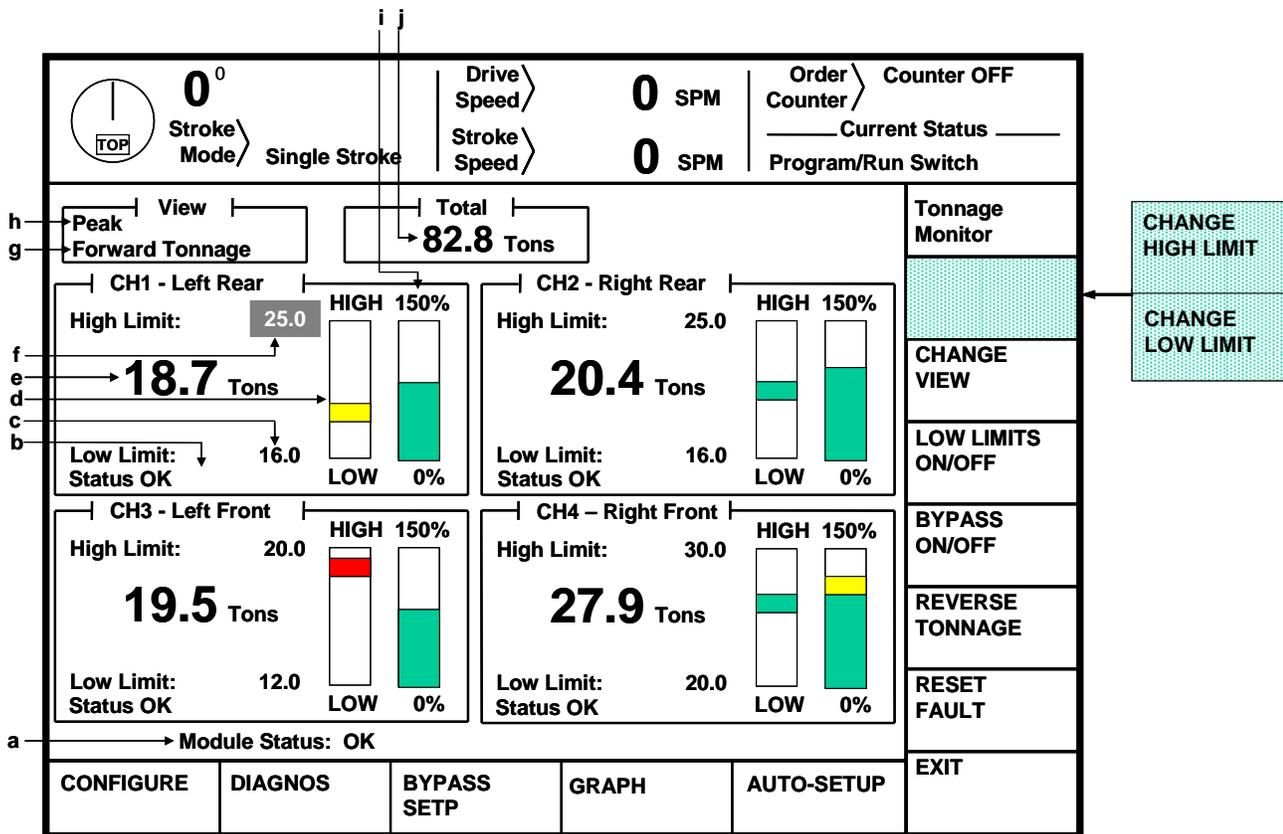
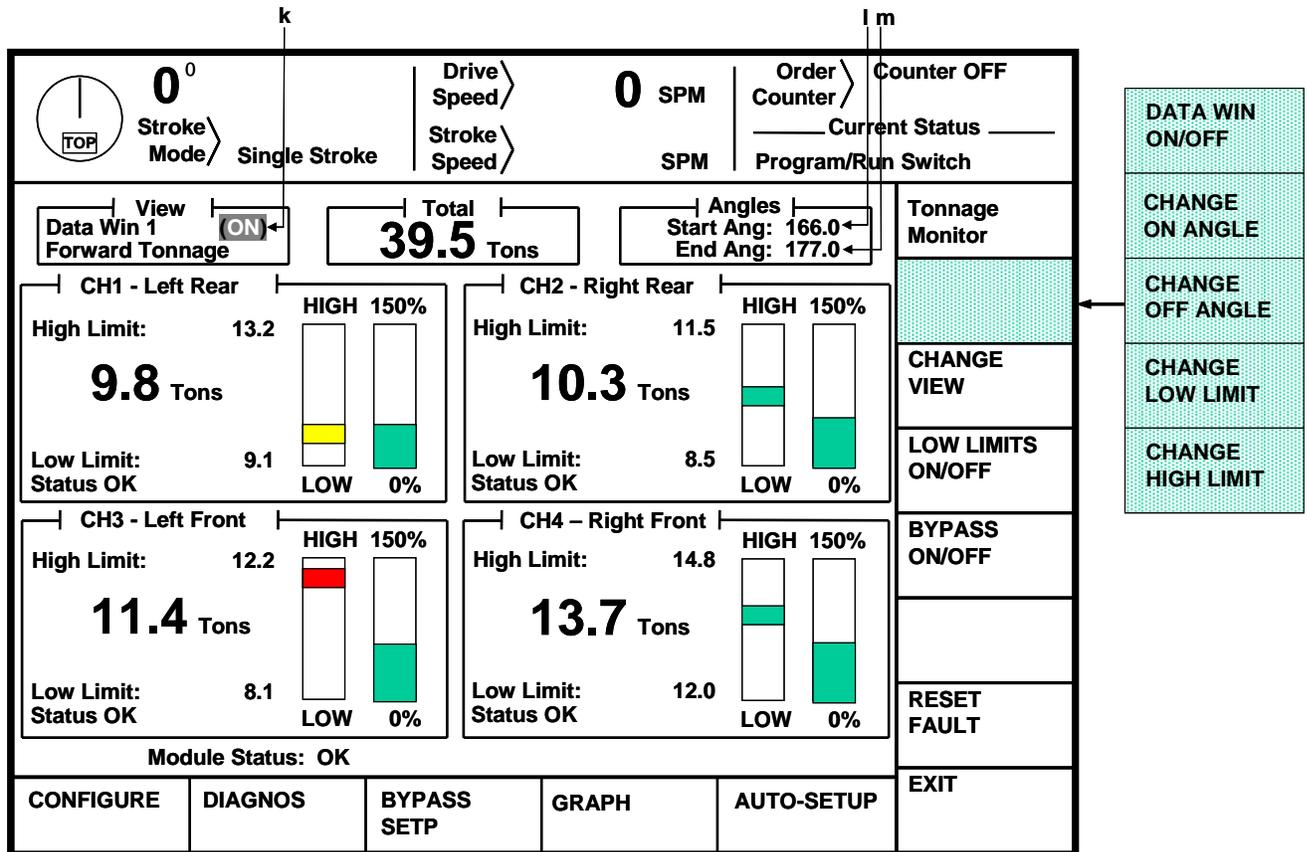
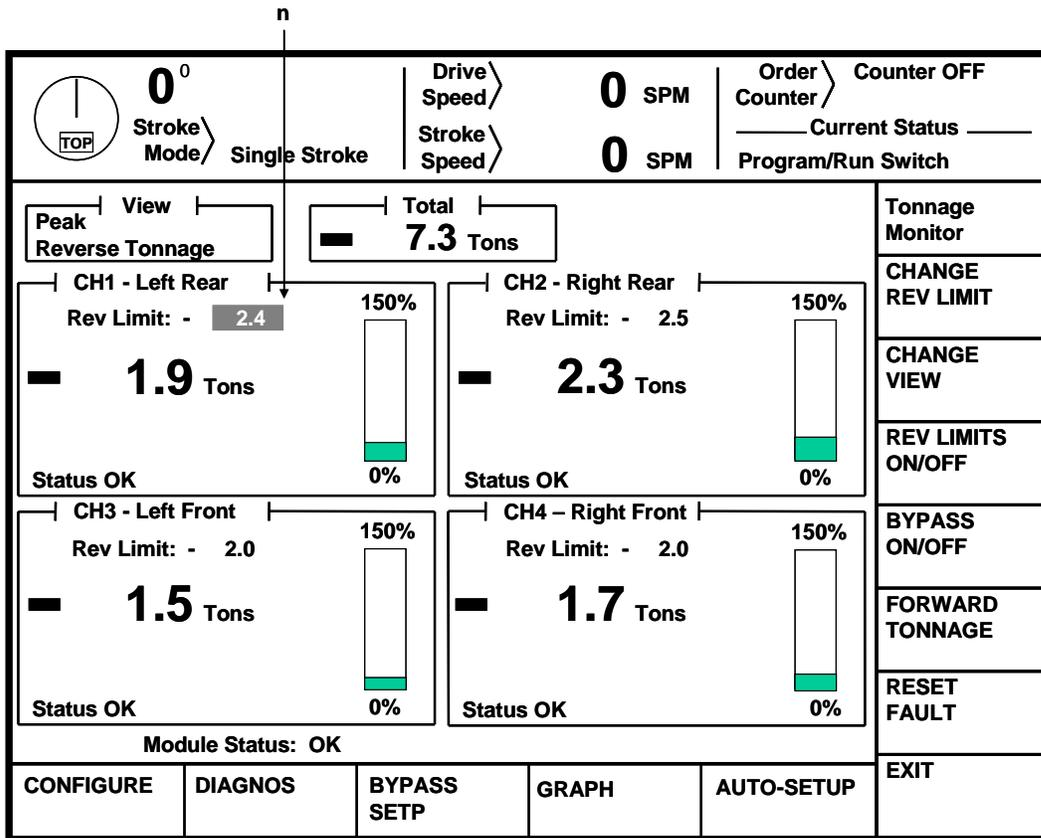

Figure 5: Tonnage Monitor Main Screen Showing Peak Forward Tonnage
Figure 6: Tonnage Monitor Main Screen Showing Data Window 1 Tonnage
Figure 7: Tonnage Monitor Main Screen Showing Reverse Tonnage
Peak forward tonnage, peak reverse tonnage, and data window forward tonnages can be selected for viewing. Figure 5 is an example of a peak forward tonnage view, Figure 6 shows a data window forward tonnage view, and Figure 7 shows a peak reverse tonnage view. Two channel screens look much the same but have no channel three or channel four information sections.
In Figure 5, the various parts of the screen are:
- e) **Tonnage Reading** The numeric tonnage reading for this channel and view. In the example screen of Figure 5, this is the peak forward tonnage for channel 1.
REVERSE TONNAGE Softkey	This softkey changes the tonnages displayed to reverse peak tonnages (see Figure 7). This key is only present when viewing forward peak tonnage. See section 3.2.1 on page 18 for more information.
Figure 6 shows a four channel screen when viewing data window 1 tonnages. Notice that the major difference between this screen and that of Figure 5 is the addition of three new parameters and the lack of a REVERSE TONNAGE softkey.
In Figure 6, some additional settings in a data window view are:
Figure 7 shows a four channel screen when viewing reverse tonnages. Notice that there are no limit bars when viewing reverse tonnage as there is only one reverse limit for each channel.
In Figure 7, an additional setting in the reverse tonnage view is:
As explained in Section 2.2, data windows can monitor “local” peaks with a separate set of setpoints from the “absolute” peak. Each set of tonnages and limits makes up a “view” in this screen and is indicated by the box in the upper left of the screen as shown by “h” and “g” in Figure 5. The absolute peak tonnages and associated limits are called the “peak view”. In all, there are six different “views” of tonnages and settings - peak forward, peak reverse, data window 1 forward, data window 2 forward, data
When viewing peak forward tonnage, press the **REVERSE TONNAGE** softkey to change the view to peak reverse tonnage and settings. This key is only available in the peak forward view (as seen in Figure 5) as data windows do not have reverse tonnage associated with them.
When viewing peak reverse tonnage, press the **FORWARD TONNAGE** softkey to change the view to peak forward tonnage and settings. This key is only available in the peak reverse view as shown in Figure 7.
As can be seen in Figure 5, Figure 6, and Figure 7, there are several limits that must be set in the tonnage monitor for it to perform its function. Each channel in the peak view has a low, high, and reverse limit. Each channel in a data window has a low and high limit as well as a data window start and end angle.
To set a high limit, first choose the view and channel to change. Place the data entry cursor on a high limit setpoint (see “f” in Figure 5) using the up, down, left, and right arrow keys. Softkey 1 (The uppermost vertical softkey) should read **CHANGE HIGH LIMIT**. Press this softkey to enter numeric entry mode (or simply start entering numbers after the field is selected). Enter the new limit with the numeric keypad and press the **ENT** key to set the limit. The high limit **MUST** be greater than the low limit for that channel and view but less than “Max Forward Setpoint Level” (see section 4.4.4 on page 45 for details).
To set a low limit, first choose the view and channel to change. Place the data entry cursor on a low limit setpoint (see “c” in Figure 5) using the up, down, left, and right arrow keys. Softkey 1 (The uppermost vertical softkey) should read **CHANGE LOW LIMIT**. Press this softkey to enter numeric entry mode (or simply start entering numbers after the field is selected). Enter the new limit with the numeric keypad and press the **ENT** key to set the limit. The low limit **MUST** be less than the high limit for that channel and view! Note that setting this value to zero effectively disables it.
To set a reverse limit, first set the view to “peak reverse” as shown in Figure 7. Place the data entry cursor on a reverse limit setpoint (see “n” in Figure 7) using the up, down, left, and right arrow keys. Softkey 1 (The uppermost vertical softkey) should read **CHANGE REV LIMIT**. Press this softkey to enter numeric entry mode (or simply start entering numbers after the field is selected). Enter the new limit with the numeric keypad and press the **ENT** key to set the limit.
Pressing the LOW LIMITS ON/OFF softkey will toggle all low limits (including those in all data windows) ON or OFF. This key is only available when viewing forward tonnage (as in Figure 5 and Figure 6). Like changing setpoints, this is a restricted operation. The operator must have access to this operation via RUN/PROG Key or access code depending on how the system has been configured (See section 11 on page 78 for access configuration details). When low limits are turned off, “Low Lim OFF” will be displayed with a yellow background just below the tonnage reading on each channel.
Pressing the REV LIMITS ON/OFF softkey will toggle all reverse limits ON or OFF. This key is only available when viewing reverse tonnages (as in Figure 7). Like changing setpoints, this is a restricted operation. The operator must have access to this operation via RUN/PROG Key or access code depending on how the system has been configured (See section 11 on page 78 for access configuration details). When reverse limits are turned off, “Rev Lim OFF” will be displayed with a yellow background just below the tonnage reading on each channel.
Each data window can be individually turned ON or OFF. When OFF, the limits associated with the data window are NOT enforced. To set the data window ON/OFF state, change the view to the data window desired. The screen should look something like Figure 6. Place the data entry cursor on the ON/OFF parameter in the View box as pointed to by “k” in Figure 6. Softkey 1 (The uppermost vertical softkey) should read DATA WIN ON/OFF. This softkey toggles the data window setting between ON and OFF.
The “Start Angle” for the data window is the crankshaft angle at which the setpoints associated with the window start to be enforced. To change the start angle, change the view to the data window desired. The screen should look something like Figure 6. Place the data entry cursor on the “Start Ang” parameter (“l” in Figure 6). Softkey 1 (The uppermost vertical softkey) should read CHANGE START ANGLE. Enter the new value with the numeric keypad and press the ENT key to set the angle. The start angle MUST be less than the end angle for that data window (you may have to change the end angle first)!
The “End Angle” for the data window is the crankshaft angle at which the setpoints associated with the window stop being enforced. To change the end angle, change the view to the data window desired. The screen should look something like Figure 6. Place the data entry cursor on the “End Ang” parameter (“m” in Figure 6). Softkey 1 (The uppermost vertical softkey) should read **CHANGE END ANGLE**. Enter the new value with the numeric keypad and press the **ENT** key to set the angle. The end angle **MUST** be greater than the start angle for that data window (you may have to change the start angle first)!